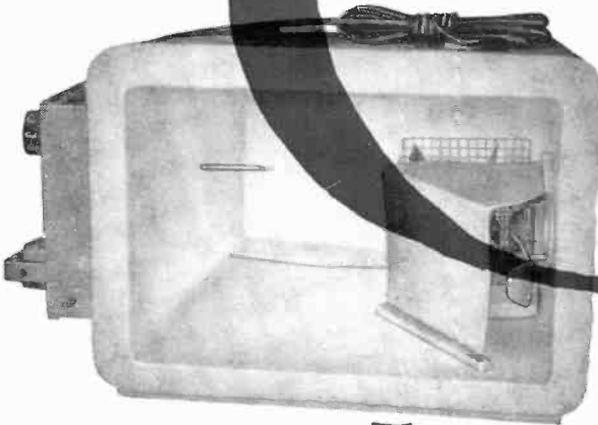

Fig. 5
**Air Baffle.** The baffle covers the fan and directs the air to the rear and thus counter-clockwise around the interior of the chamber. The layout is shown in Fig. 5. The baffle is